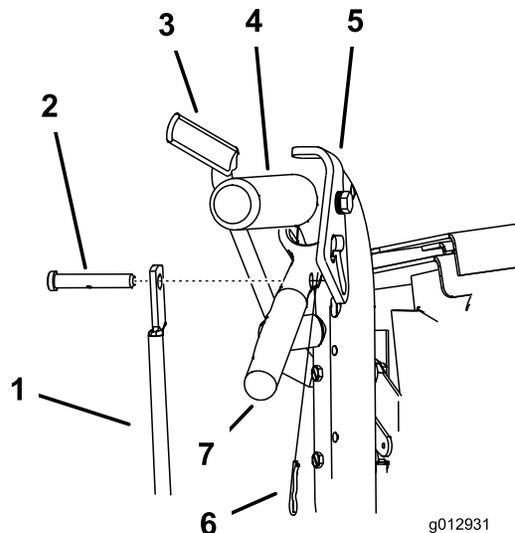

Figure 50
1. Remove the hairpin cotter pins and clevis pins from the drive levers and neutral locks (Figure 50).